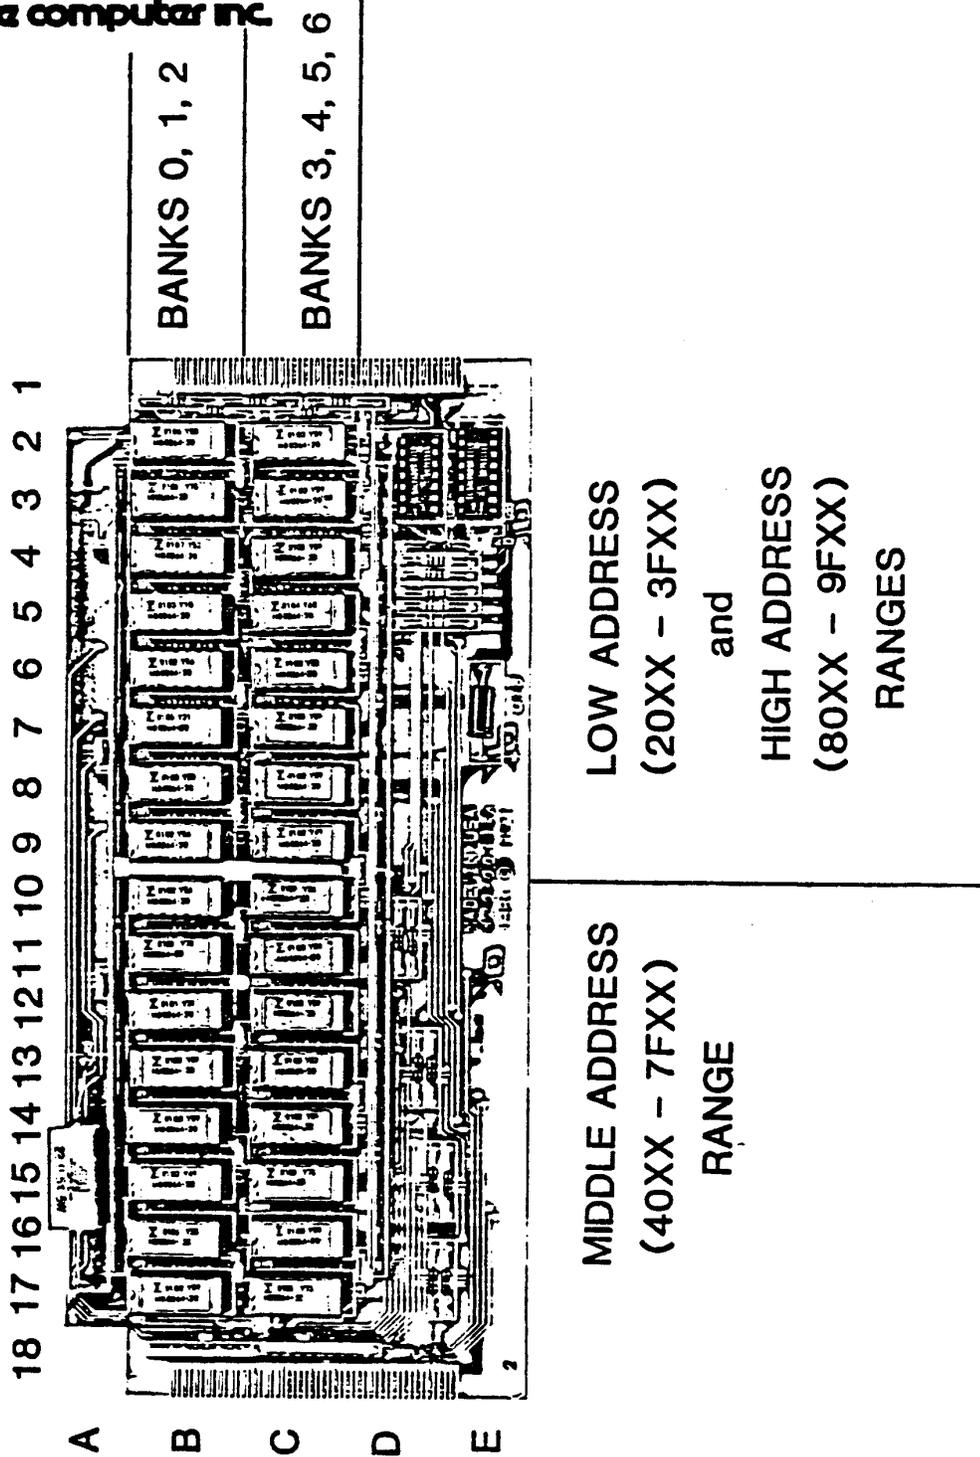

FIGURE 1
- 1) To find out which row the failed RAM chip is in, disregard the 8, and look at the second number, in this case 3. If the second number is 0, 1, or 2, the bank is in row B. If the second number is 3, 4, 5, or 6, the bank is in row C. (See Figure 1). In our example, the bank was BNK 83, so we know it is in row C.
- 2) Now the meaning of the address. There are three address ranges, low, middle, and high. Low and high are in columns 2-9, and middle is in columns 10-17. Look at Figure 1 for the specific address ranges. In our example, the address was 20XX (which is in the low address range), so we see that the trouble is in columns 2-9.